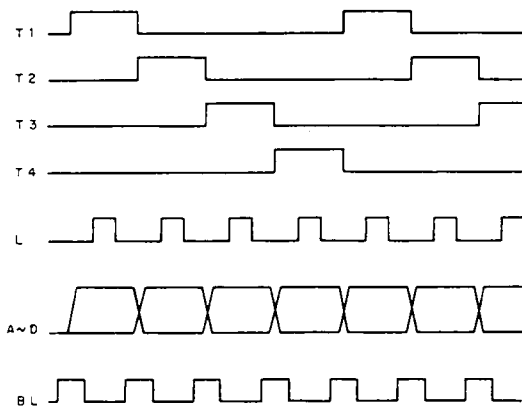

Fig. 4-4 Data Program Signal Time Chart
pulse (L) signals. See Fig. 4-4 for an outline of the data program signal time chart.
The time division pulse generated by TC9124AP (outlined in Fig. 4-4) is a time-sharing timing signal used in synchronizing almost all TC9124AP inputs and outputs.